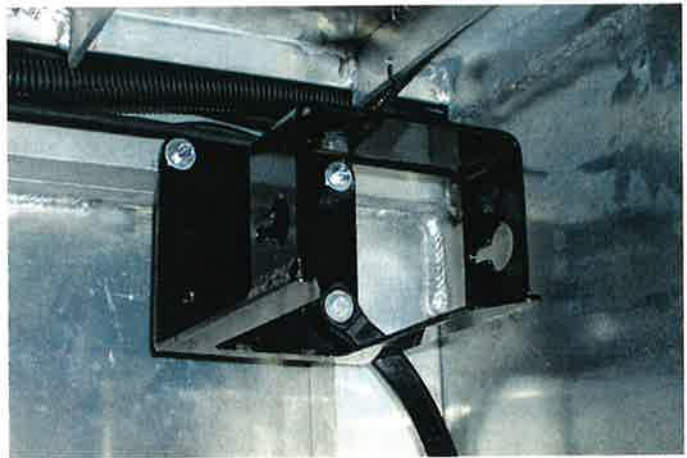

FIGURE 8
- (h) Using holes in locking brackets as a template, drill four (4) 9/32" holes through flange. Attach angle to bulhead using four (4) 1/4" x 3/4" hex head cap screws (Part # 0400066) and four (4) 1/4" nylok hex nuts (Part # 0400367). See Figure 8.
- (i) Attach one (1) rubber strap to each adjustment tube locking bracket weldment using one (1) 1/4" x 1" hex head cap screw (Part # 0400070) and one (1) 1/4" nylok hex nut (Part # 0400367). Refer to Figure 8.